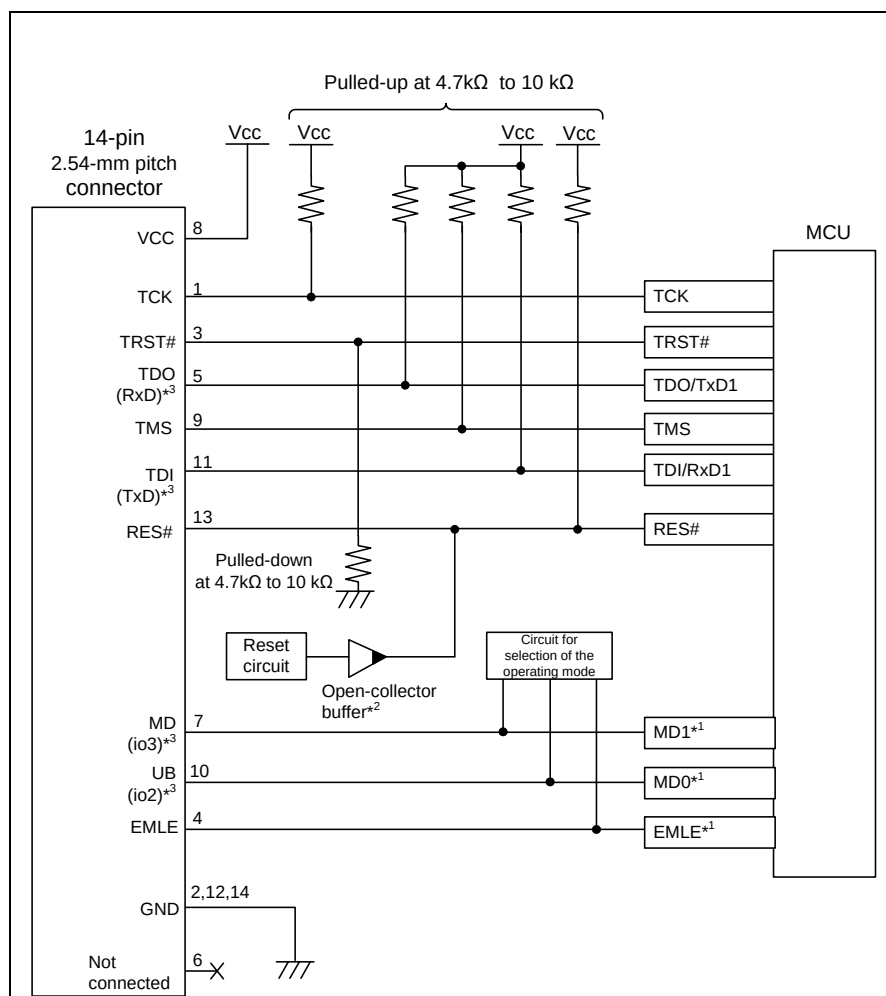
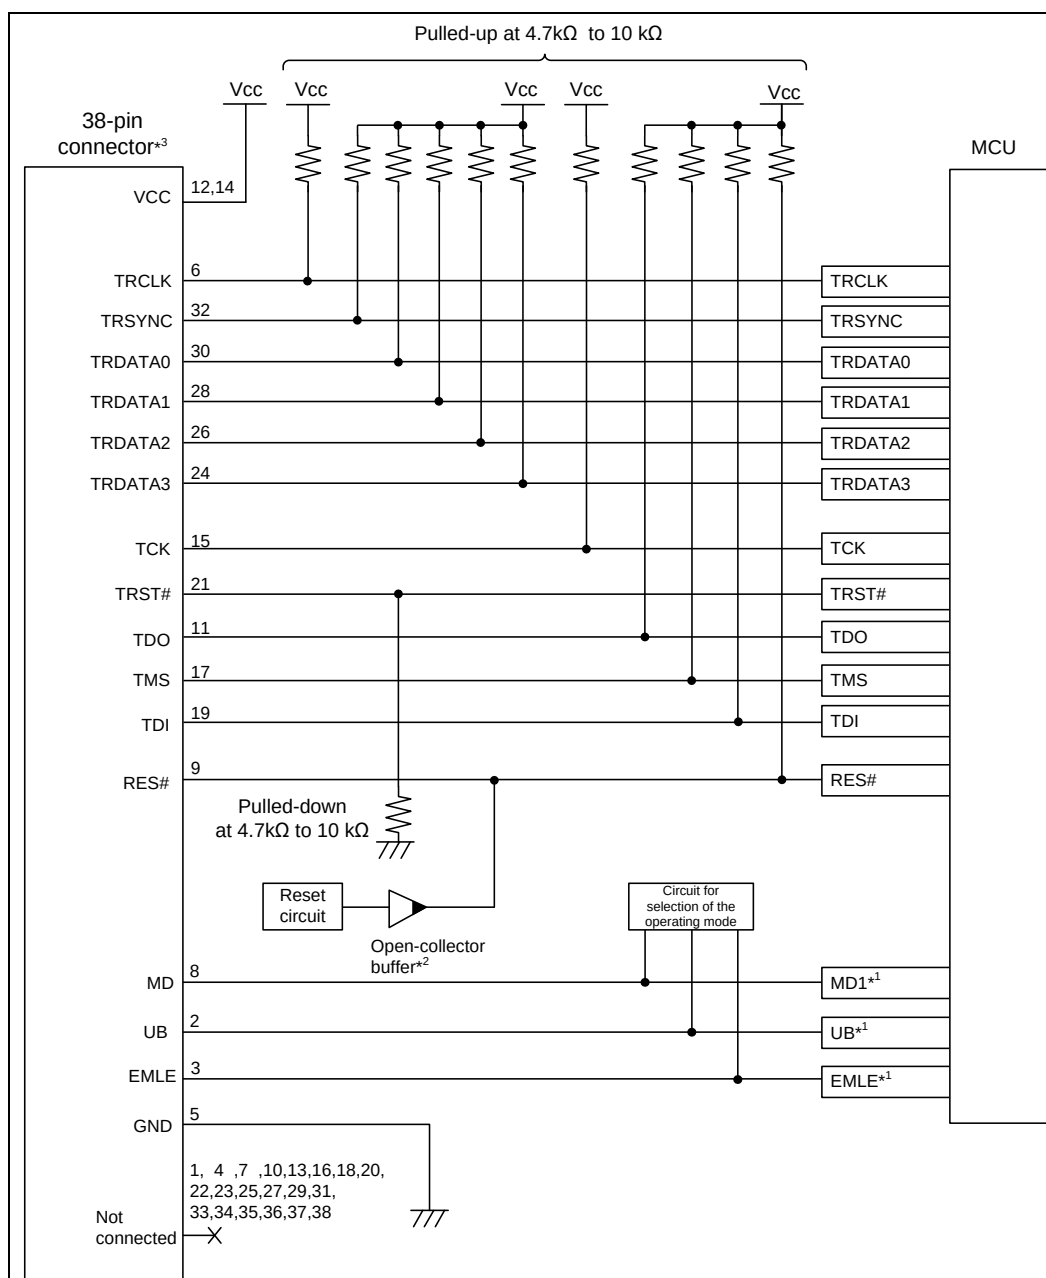

Figure 2.10 Recommended Circuit for Connection between the 14-Pin Connector and the RX63x or RX64x Group MCUs in JTAG Interface Connection
Figure 2.15 Recommended Circuit for Connection between the 38-Pin Connector and the RX63x or RX64x Group MCUs in JTAG Interface Connection
Figure 2.10 shows a recommended circuit for connection between the 14-pin connector and the RX63x or RX64x Group MCUs in JTAG Interface Connection.
Figure 2.15 shows a recommended circuit for connection between the 38-pin connector and the RX63x or RX64x Group MCUs in JTAG Interface Connection.
3. When programming flash memory using programming software, connect the emulator connector and target MCU with reference to figure 2.10 for X63x or RX64x. When debugging, refer to figure 2.15 for the emulator connector pin numbers.